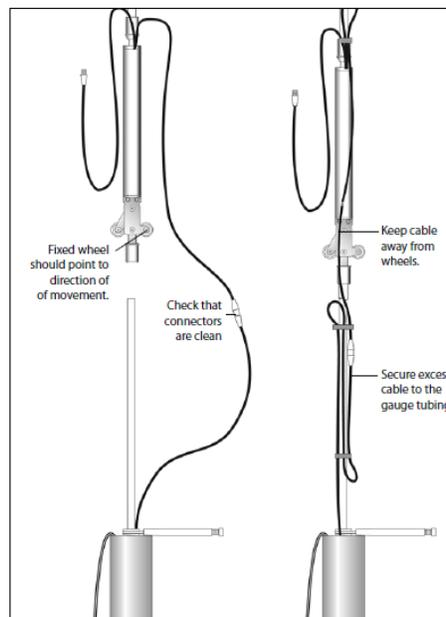

Figure 10
1. Connect next sensor to the gauge tubing of the sensor below. Always check that fixed wheel points to expected direction of movement, as shown on Figure 10